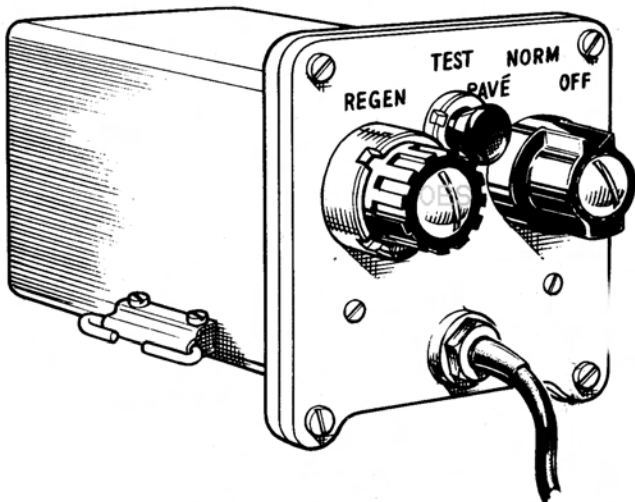

FIG. 5 AMPLIFIER UNIT
2.3 THE AMPLIFIER UNIT (Fig. 5)